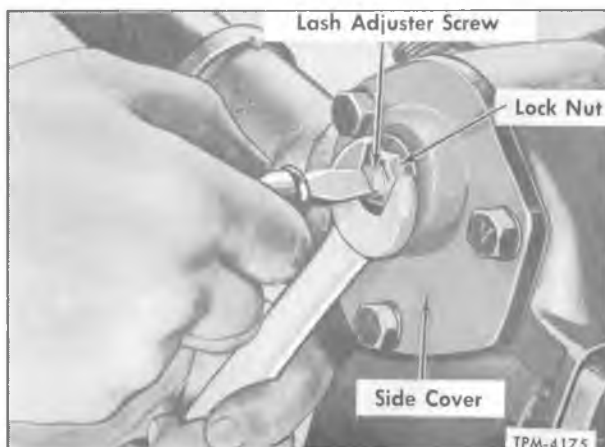

Figure 3—Adjusting Sector Gear Lash
(Refer to Figure 3)
2. Loosen lock nut and turn lash adjuster (fig. 3) a few turns counterclockwise to relieve load from worm bearings and to provide clearance between the sector gear and worm ball nut.
2. Loosen lash adjuster lock nut and turn adjuster screw (fig. 3) clockwise to remove all back lash between gear teeth. Tighten lock nut to 25-35 foot-pounds torque, then check steering wheel rim pull as outlined previously. Measure greatest pull as wheel is pulled through center position. Rim pull should be  $2\frac{3}{4}$  to  $3\frac{3}{4}$  pounds.